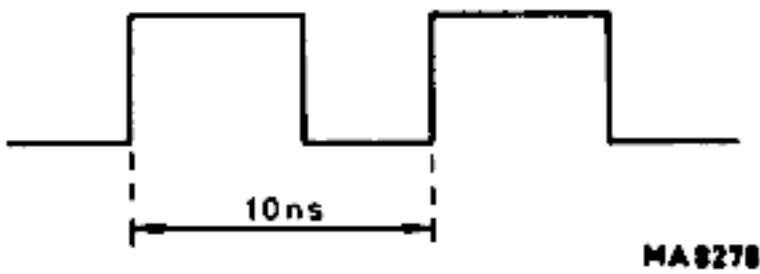

Fig. IX-17. Double pulse diagram
- Check that the time difference between the pulses is 10 ns (refer to Fig. IX-17).